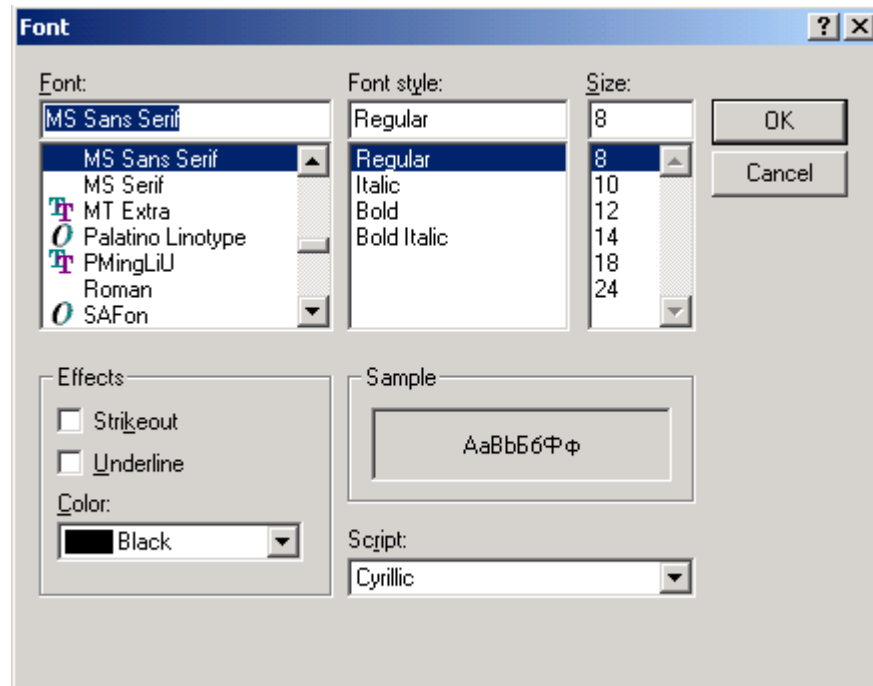

Figure 44 The "FONTS" dialogue box
1. Choose the Parameters > Options > Fonts command. The dialogue box shown in figure 44 will appear.